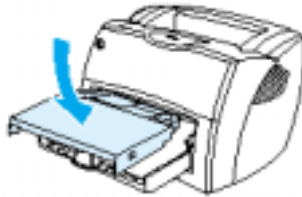

Figure 16. Printer Media Tray
12. Install the printer media tray as shown in Figure 16.